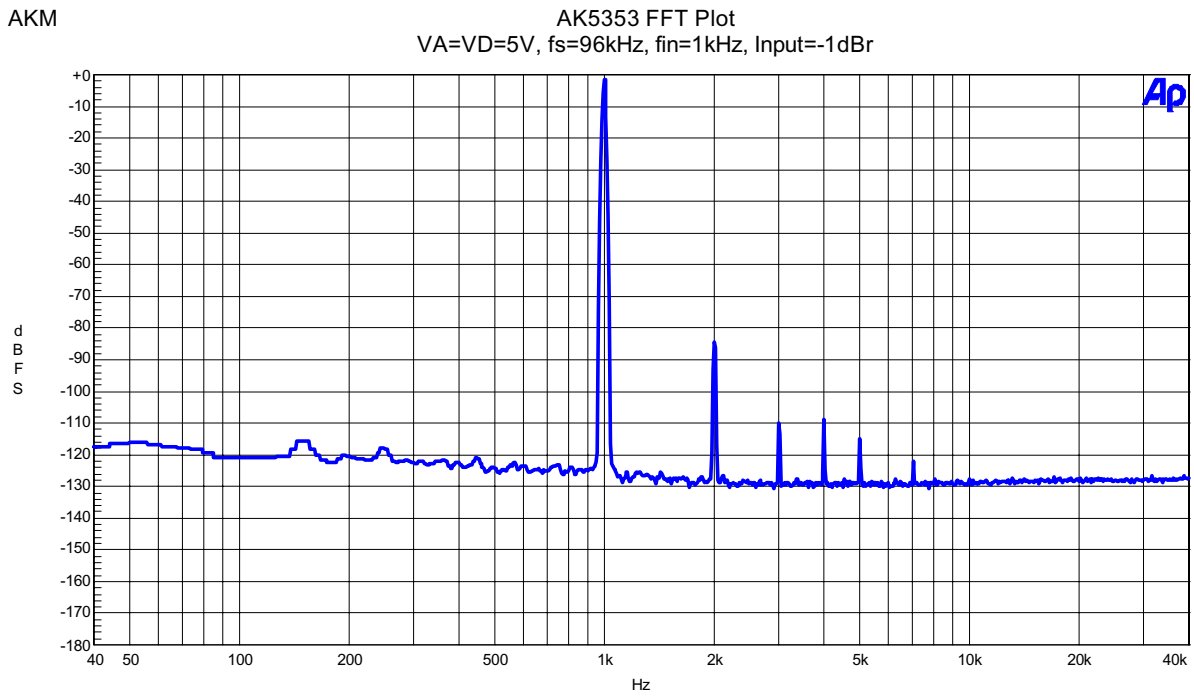

Figure 2-1. FFT (1kHz, -1dBFS input)
- Figure 2-1. FFT (1kHz, -1dBFS input)